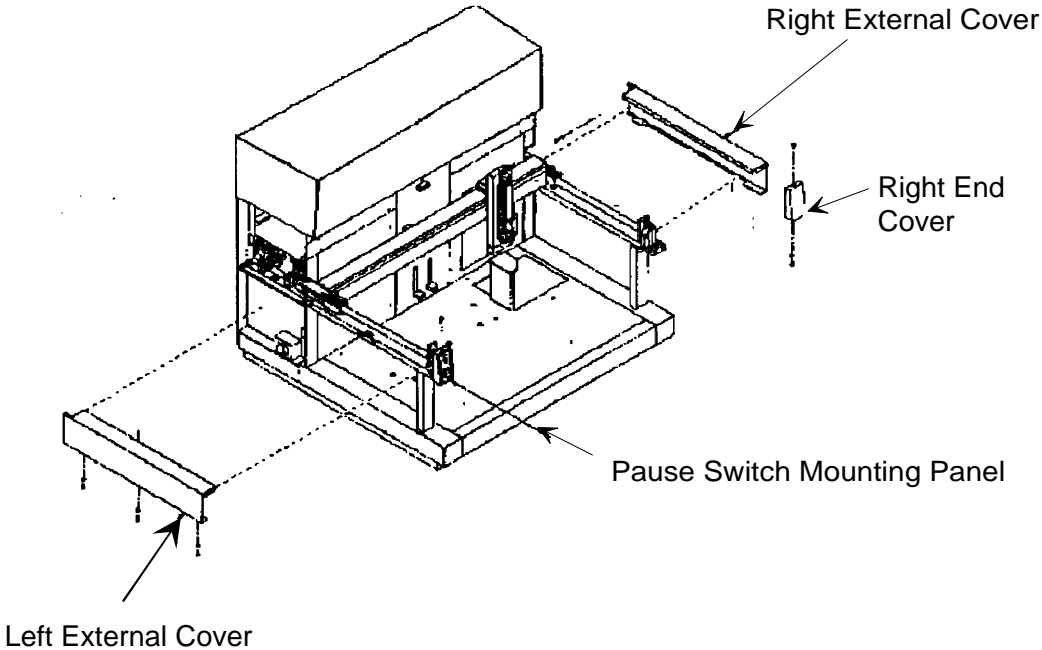

Figure 1. Right External Cover
2. Remove pause switch mounting panel by removing two screws. (Refer to Figure 1.)